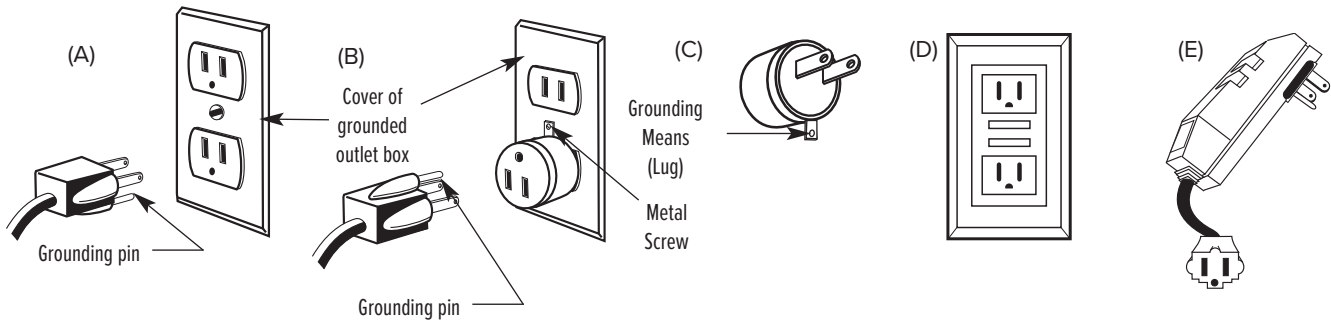

Figure 5
This tool is intended for use on a circuit that has an outlet that looks like the one illustrated in Figure 5. The tool has a grounding plug that looks like the plug illustrated in Figure 5(A). A temporary adapter, which looks like the adapter illustrated in Figure 5(B) and 5(C), may be used to connect this plug to a 2 pole receptacle as shown in Figure 5(B) if a properly grounded outlet is not available. The temporary adapter should be used only until a properly grounded outlet can be installed by a qualified electrician. The green-colored rigid ear, lug, and the like, extending from the adapter must be connected to a permanent ground such as a properly grounded outlet box.
Additionally, water pump requires the use of a Ground Fault Circuit Interrupter. Therefore, when using the water pump receptacle, this tool must be plugged into a properly installed Ground Fault Circuit Interrupter outlet. See Figure 5(D). If a Ground Fault Circuit Interrupter outlet is not available, Pearl Abrasive Co. has it available as an accessory item. A plug-in Ground Fault Circuit Interrupter may be plugged into a properly installed and grounded 3-pole outlet. Refer to Figure 5(E).